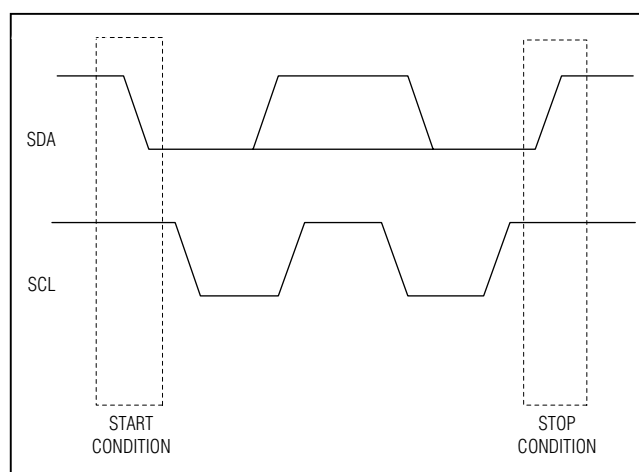

Figure 21. I²C START and STOP Conditions
Both SCL and SDA remain high when the bus is not busy. The master signals the beginning of a transmission with a START (S) condition by transitioning SDA from high to low while SCL is high. When the master has finished communicating with the IC, it issues a STOP (P) condition by transitioning SDA from low to high while SCL is high. The bus is then free for another transmission (Figure 21). Both START and STOP conditions are generated by the bus master.